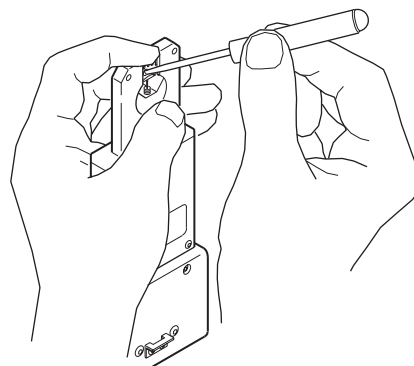

Figure 12 Setting the Arc Gap
5. Hold the micro weld head so that the electrode tip is pointing down. Loosen the electrode clamping screw to allow the electrode to fall against the arc gap gage. See Figure 12.